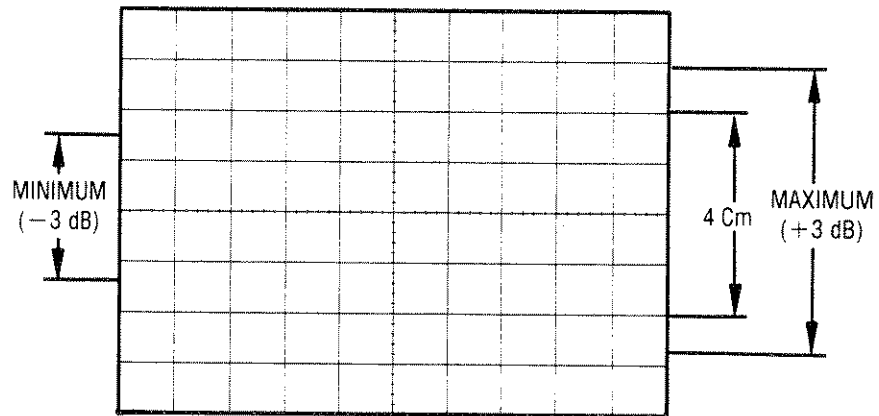

Figure 5-50. Flatness Response
13. Sweep the function generator frequency from 100 Hz to 10 MHz. Alternate between adjustments A5C14 (LO) and A5R75 (HI) to obtain the most constant overall response from 100 Hz to 10 MHz.
14. Check that the +3 dB flatness specification is met between 100 Hz and 2 MHz as follows. Sweep the function generator frequency between 100 Hz and 2 MHz. On the oscilloscope, the maximum point (+3 dB) can be as great as 5.6 divisions, and the minimum point (-3 dB) can be as small as 2.8 divisions. See figure 5-50.